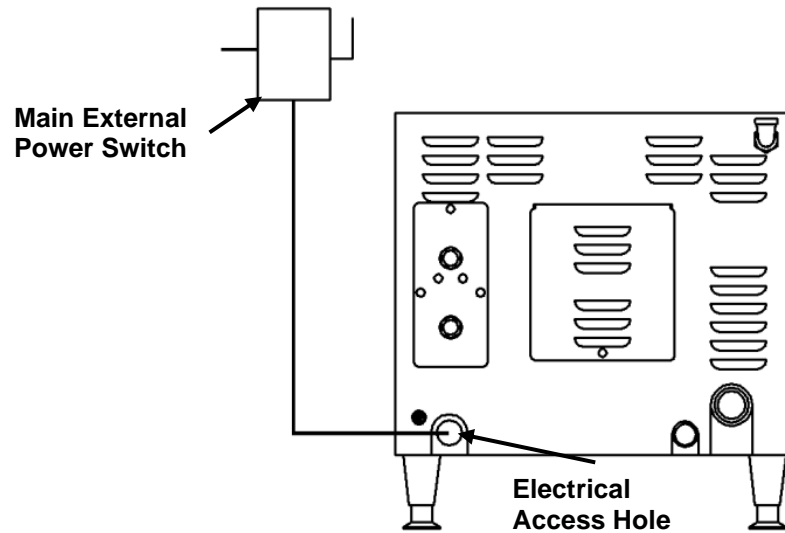

Figure 3-12 Electrical Main Power Switch and Access Hole
1. Install a main disconnect switch and a separate fuse or breaker for this appliance as shown in Figure 3-12. The fused disconnect switch is called the “Main External Power Switch.”
6. Mechanically secure the flexible conduit to the electrical access hole found at the rear of the appliance. See Figure 3-12.